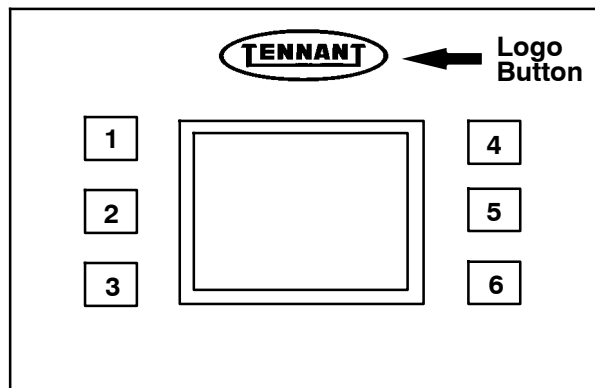

FIG. 1
2. To access the first diagnostic menu, simultaneously turn the key switch ON while holding down the TENNANT Logo button (Fig. 1). Hold the button for 5 seconds before releasing it. Use the logo button to scroll through diagnostic menus. **Scroll through each menu and record each programmable machine mode.**
NOTE: If the machine has software revision KSC 021904, the hour meter will not be accurate if the machine has more than 100 hours. Call Tech Services for instructions how to reset the hour meter to zero. Refer to Fig. 1 for locations of buttons on instrument panel.